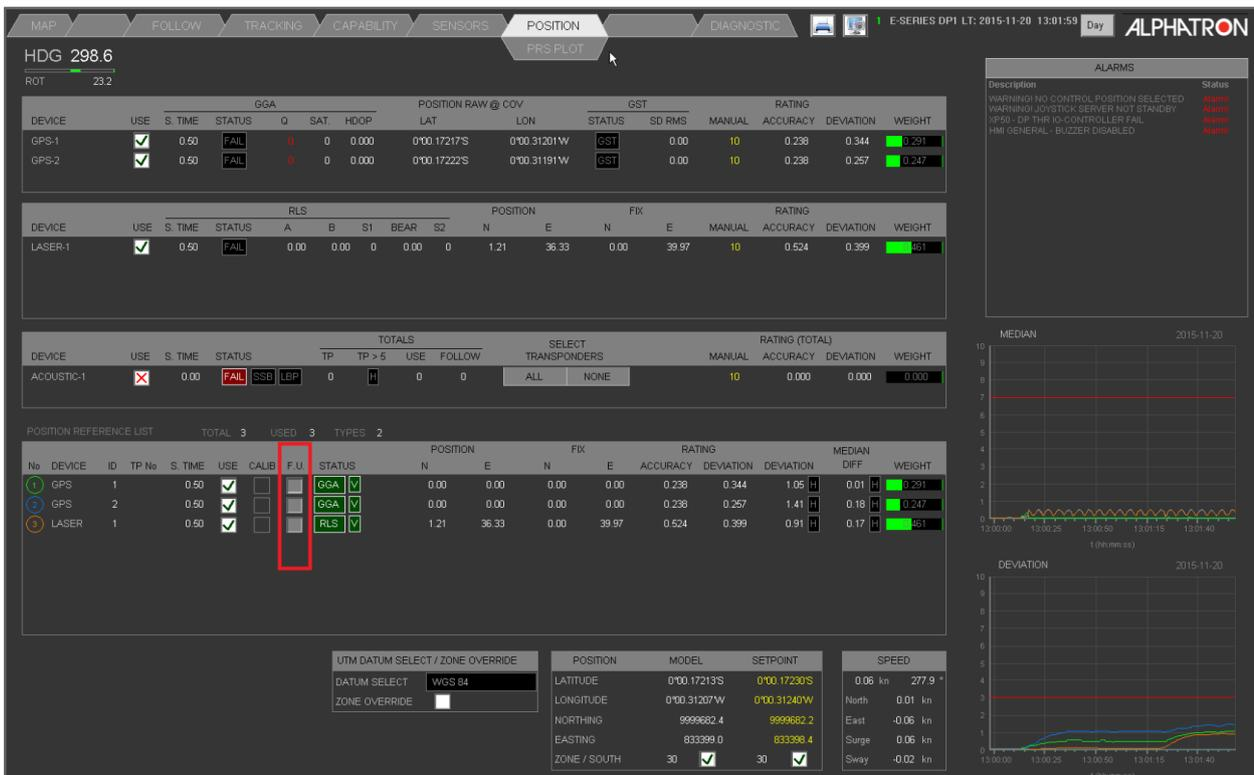

Figure 39: Position Screen (F.U.)
1. Select POSITION screen (Figure 39: Position Screen (F.U.) on page 50).
Select a sensor for Follow Up in the position screen (Figure 39: Position Screen (F.U.) on page 50). If the sensor was in use as normal positioning sensor then first deselect it, where the Laser sensor can be selected to be used for Follow Up.
After selecting a sensor for Follow up in the Position screen (Figure 39: Position Screen (F.U.) on page 50), the system can be changed from Auto Position mode to Auto Position Follow mode in the FOLLOW screen (Figure 40: Follow Up (F.U.) on page 51).